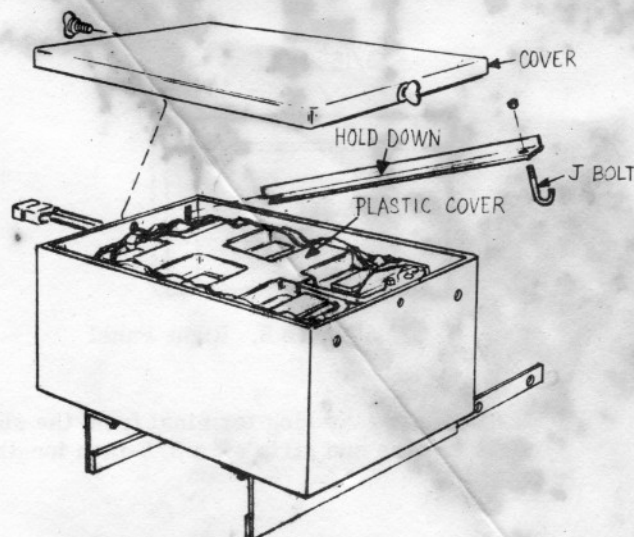

Figure 11
11. Place the plastic cover over the batteries, but inside the top edges of the bag, making sure the battery cables go through the cut-out at the left end of the cover. Adjust the cables to fit in the center raised portion of the cover. See Fig. 11.
12. Attach a threaded "J-bolt" in the end hole of each hold-down angle clamp. Secure by installing a lockwasher and nut on the first few threads of each bolt. See Fig. 11.
13. Place the hold-down angle clamps along the sides of the battery cover, outside the top-edges of the bag so the bag is between the cover and the clamps. Notice that there is a front and a rear clamp. See Fig. 11.
14. Install the box cover and secure with a thumb screw at each end. See Fig. 11.